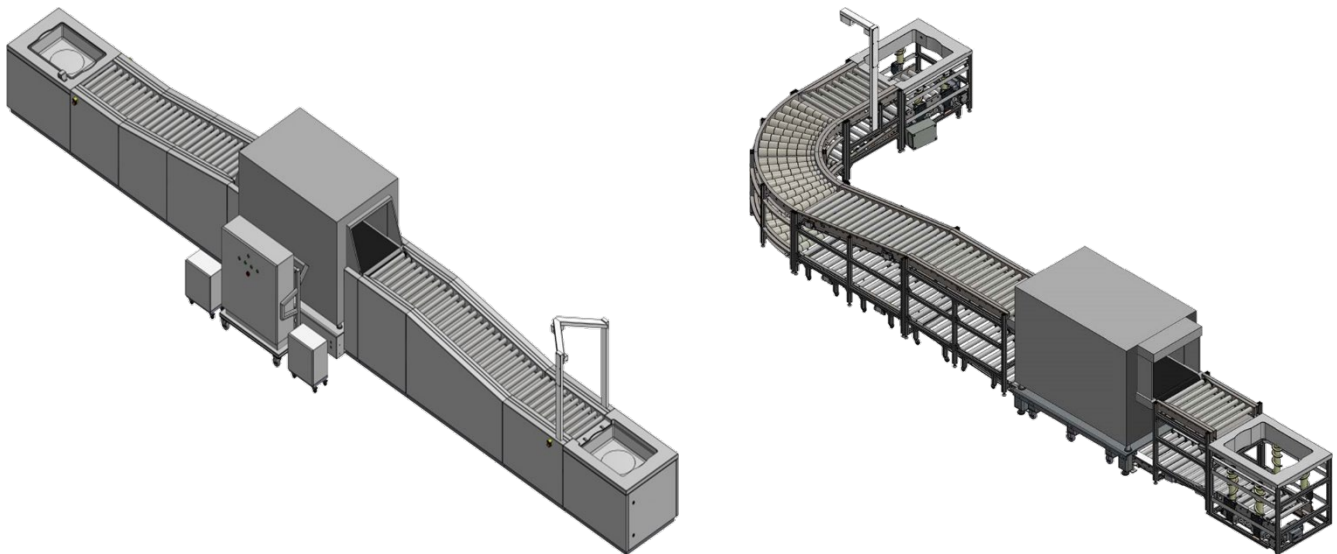

Figure 116: Sample ATRS Layouts
1. Visitor takes tray from the Tray Stacker Module (featured on the right-hand side of the Figure 116).
6. The tray reaches the end of the upper conveyor line and passes onto the Tray Recirculation Module (featured as the module closest to the top of the image in Figure 116).